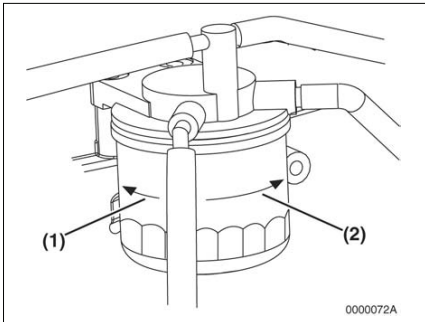

Figure 5-13
3. Remove the fuel filter with a filter wrench, turning it to the left (**Figure 5-13, (1)**). When removing the fuel filter, carefully hold it to prevent the fuel from spilling. Wipe up all spilled fuel.
5. Install the new fuel filter. Turn to the right (**Figure 5-13, (2)**) and hand-tighten it only until it comes in contact with the mounting surface. Tighten to 14-17 ft•lb (19.6-23.5 N•m; 2.0-2.4kg•m) or one additional turn using the filter wrench.